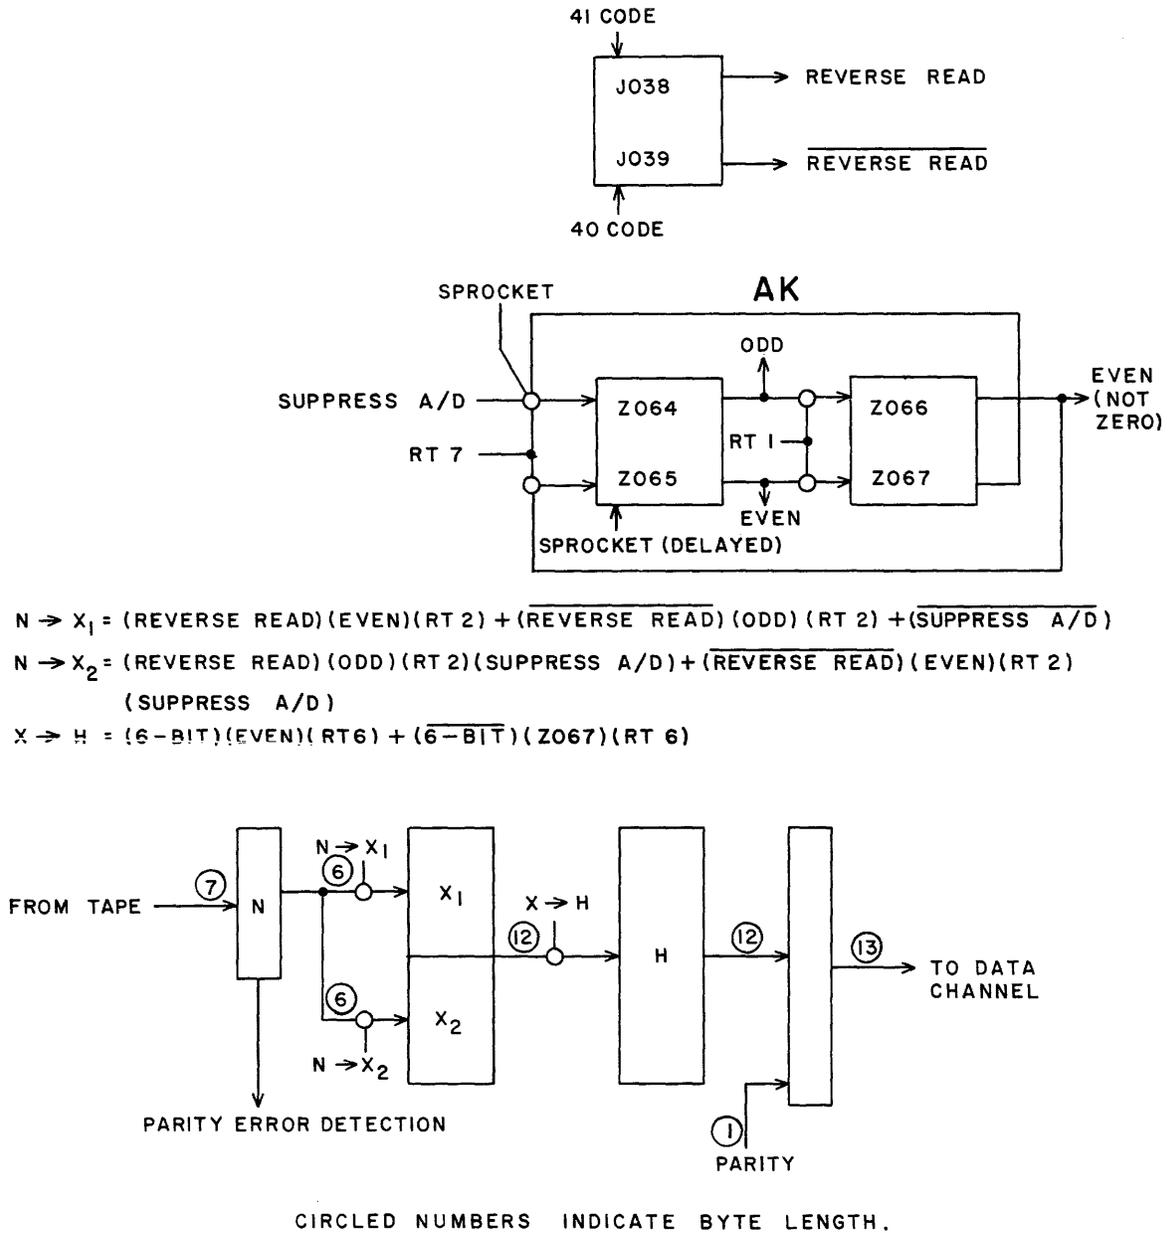

Figure 2-26. Assembly Control
The assemble function converts two 6-bit characters into one 12-bit input word. The assembly order is controlled by the assembly counter (AK) shown in Figure 2-26. During a Suppress Assembly/Disassembly mode operation, this transfer packs each 6-bit character into N_1 , and $N_1 - N_2$ are transferred to the Data Channel with N_2 all zeros. Table 1-1 shows examples of assembly.